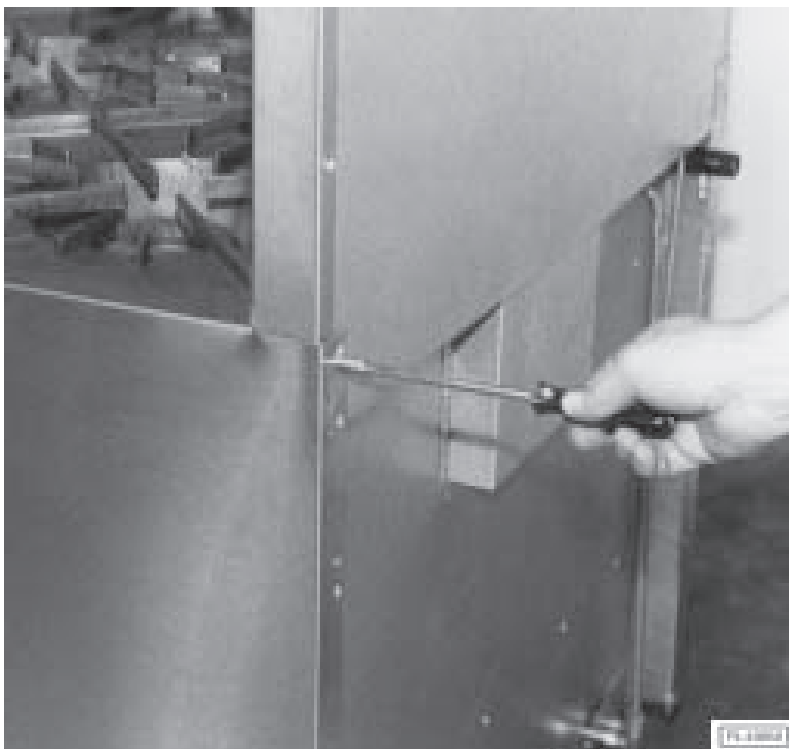

Fig. 12
6. Install eight #10 sheet metal screws (4 to each channel leg) (Fig. 12).